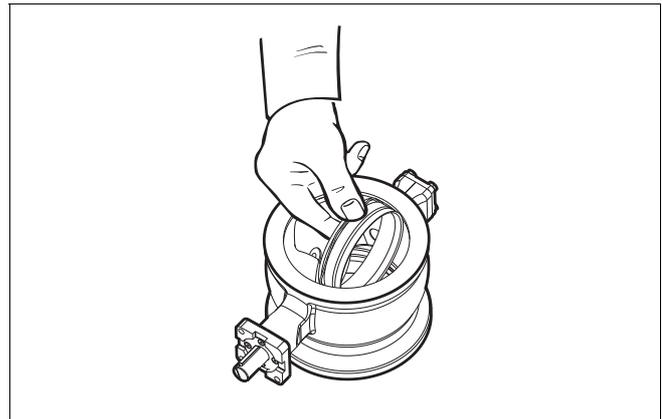

Fig. 23 Lifting the seat
- Turn the valve and lift the seat from the body through the downstream flow port, Fig. 23.